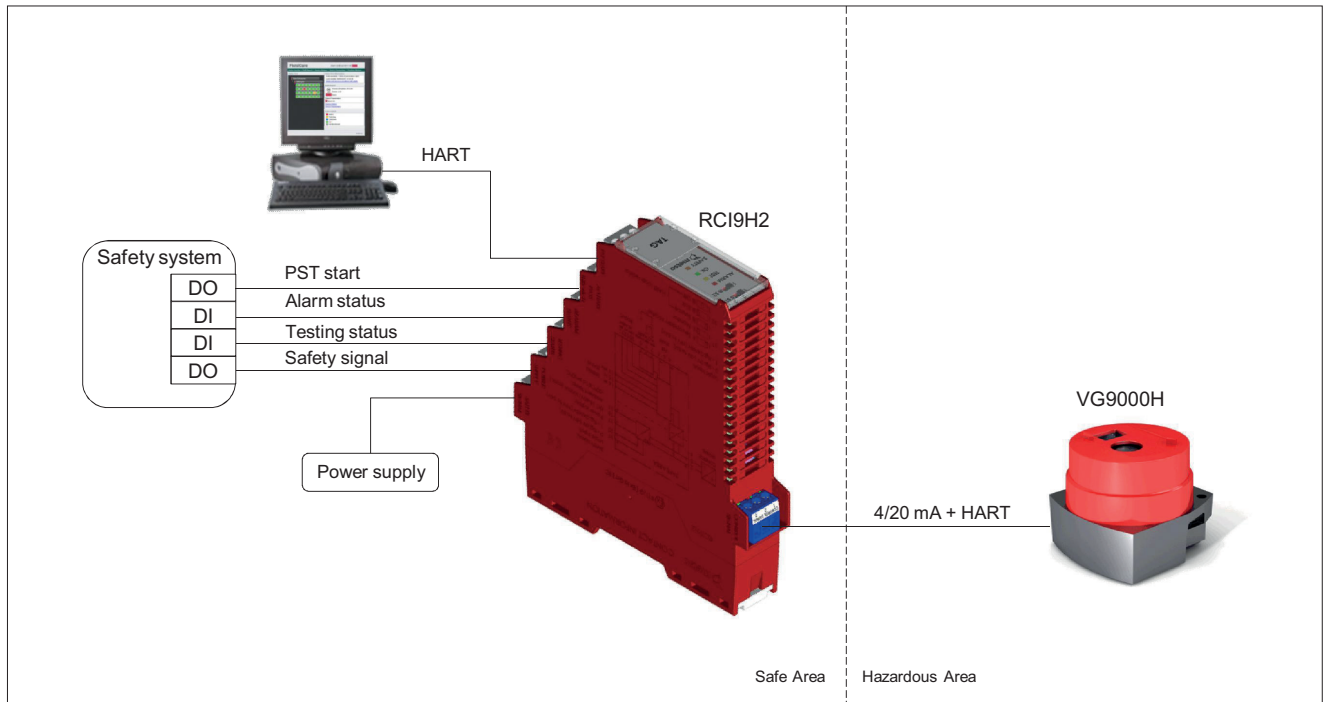

Fig. 1. RCI9H2 System Level Diagram
RCI9H2 is meant to be used together with Neles ValvGuard VG9000H safety valve controller. It is needed when 24 VDC output (DO) is used in the safety system. RCI9H2 is connected between the safety system and the field device VG9000H as presented in figure 1.